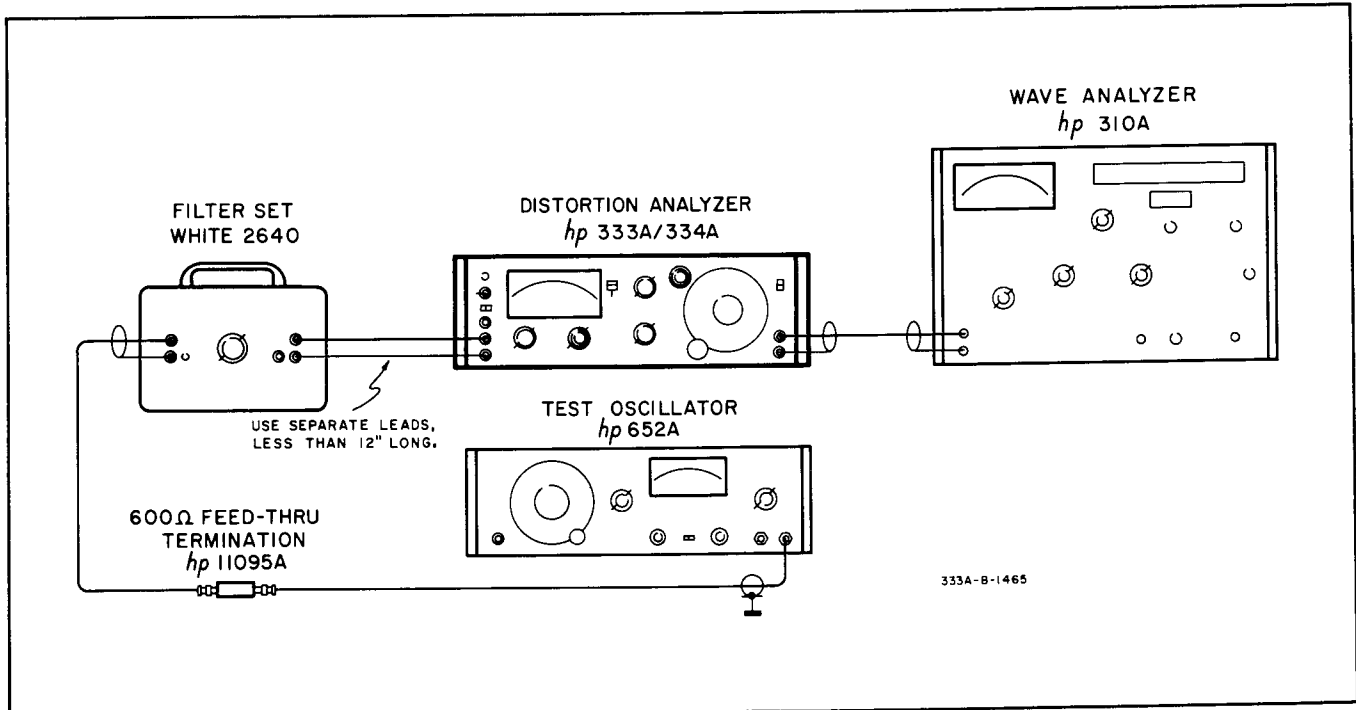

Figure 5-1. Fundamental Rejection Check
- a. Connect test equipment to 333A/334A as shown in Figure 5-1. Set filter pass frequency to 500 Hz.